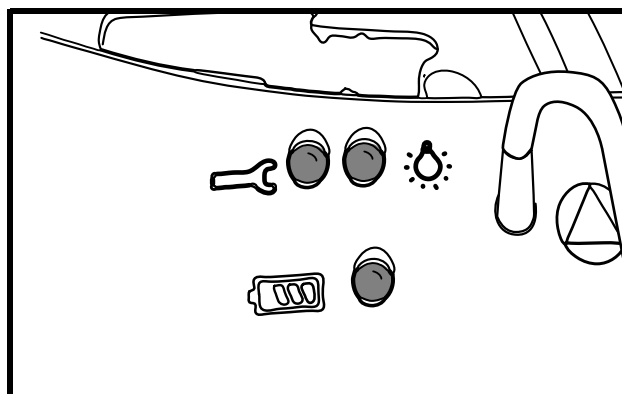

Fig. 32
- 4) When replacing the shell, make sure lights are properly aligned (see Fig. 32).